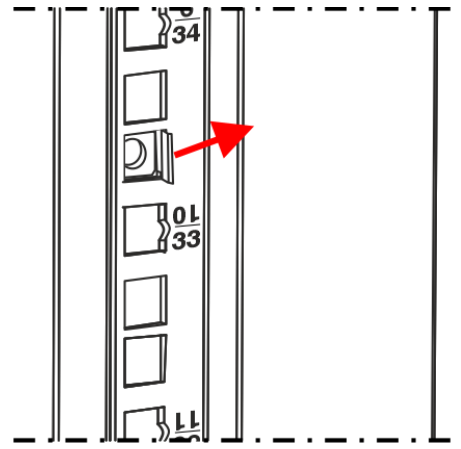

Fig. 25
- 02) Insert one side of the **cage nut (A)** into the vertical bracket, as shown in Fig. 25.